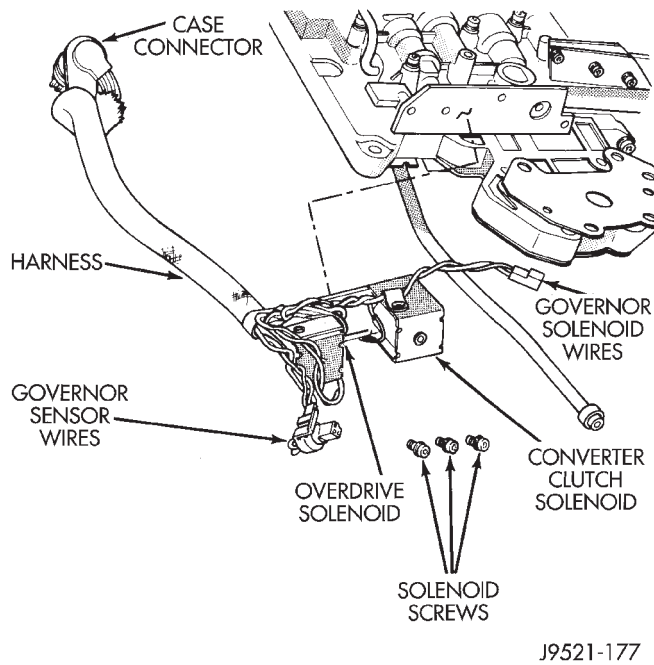

Fig. 69 Solenoid Assembly
(10) Remove solenoid and harness assembly from valve body (Fig. 69).